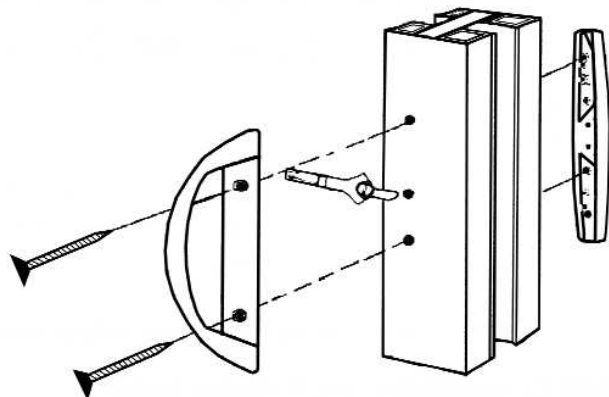

FIG. 4
1. Insert the activating lever with the tailpiece into the hub slot of the mortise lock. (FIG. 4)